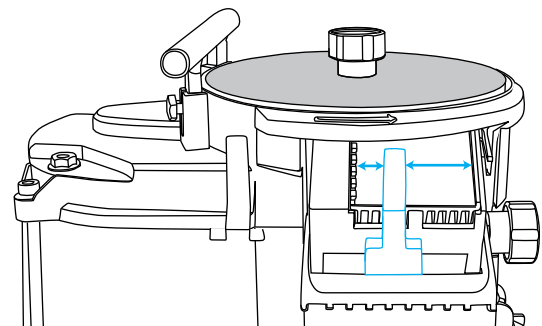

Fig. 6-4
**Tools under ½" wide can be sharpened on the left side of Port, while tools wider than ½" should be sharpened on the right side of the Port.** See fig. 6-4. This is due to the varying Wheel speed at different surface points. The center of the Wheel has a slower surface speed and is less likely to overheat a smaller tool.